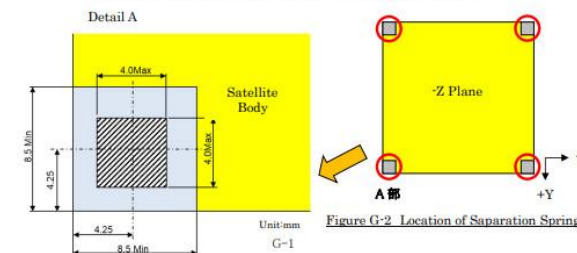

Figure G-2 Location of Separation Spring
- The mounting position of the separation spring shall be such that the tip of the spring is within the shaded area shown in Figure G-2.